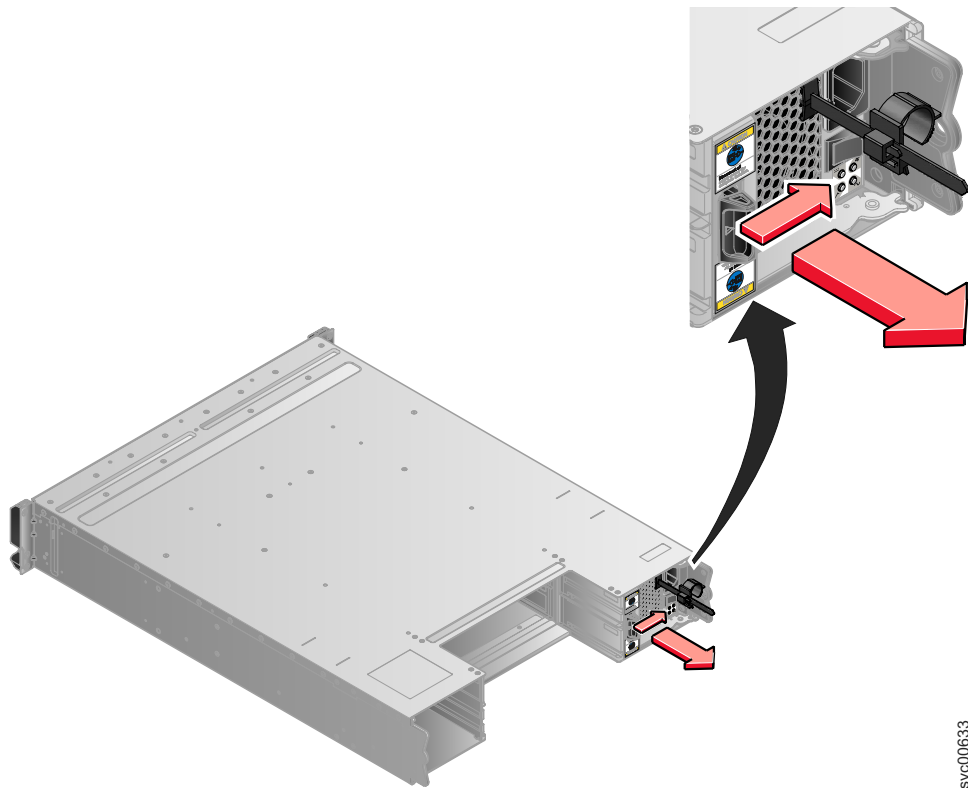

Figure 29. Directions for lifting the handle on the power supply unit
- a. Depress the black locking catch from the side with the colored sticker as shown in Figure 29 on page 94.